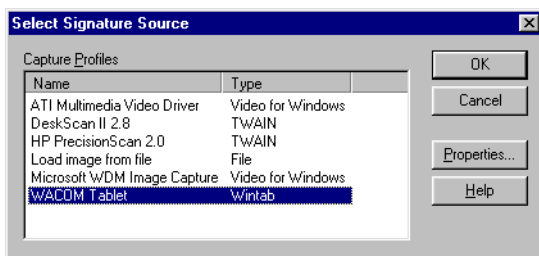

Figure 27: Select Signature Source
6. Once all these values are set, click the button followed by the button. The Select Signature Source window appears (see Figure 27 on page 24).